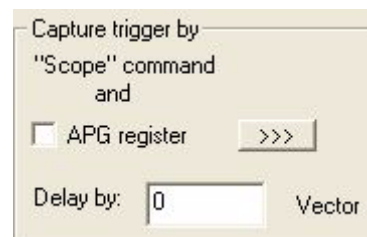

Figure 6-29. Waveform Setup Capture Trigger By Pane
- Capture Trigger By (Figure 6-29 on page 245): Trigger by the scope vector command in the pattern file is always required. It means the waveform capture (when activated by selecting Capture > Start) is triggered by the next scope instruction in the pattern file.